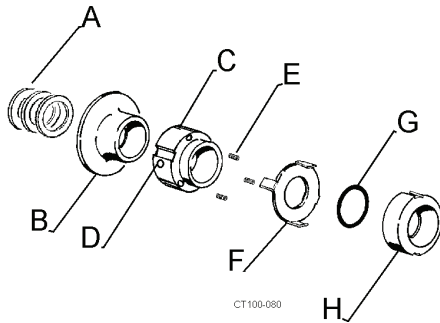

Figure 25 - Type 1 Seal Items
4. Remove the deflector (Figure 25, item B).
5. Loosen (2) set screws (Figure 25, item D) in the spring retainer (item C) and slide the retainer and washer (item F) off the shaft. Save (3) springs (item E).
8. Remove the o-ring, then lift the rotary seal off the shaft. (See Figure 25, items G and H)